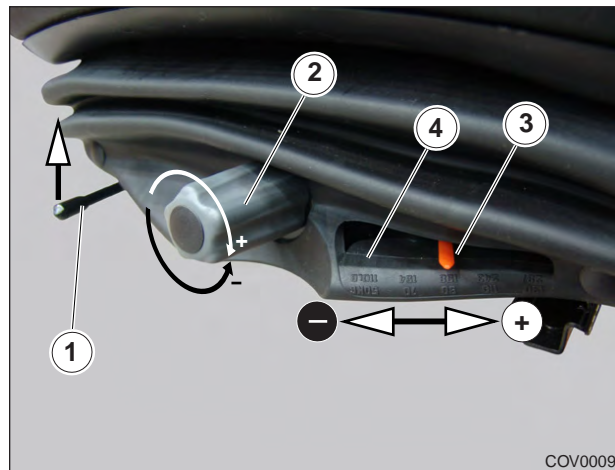

Figure 7.3. - Seat Adjustment
(1) Seat Adjustment
Refer to Figure 7.3. Lifting the lever (1) allows the seat to move forwards or backwards to suit the leg length of the operator. When the lever is released the seat is locked in position.
(2) Weight Adjustment